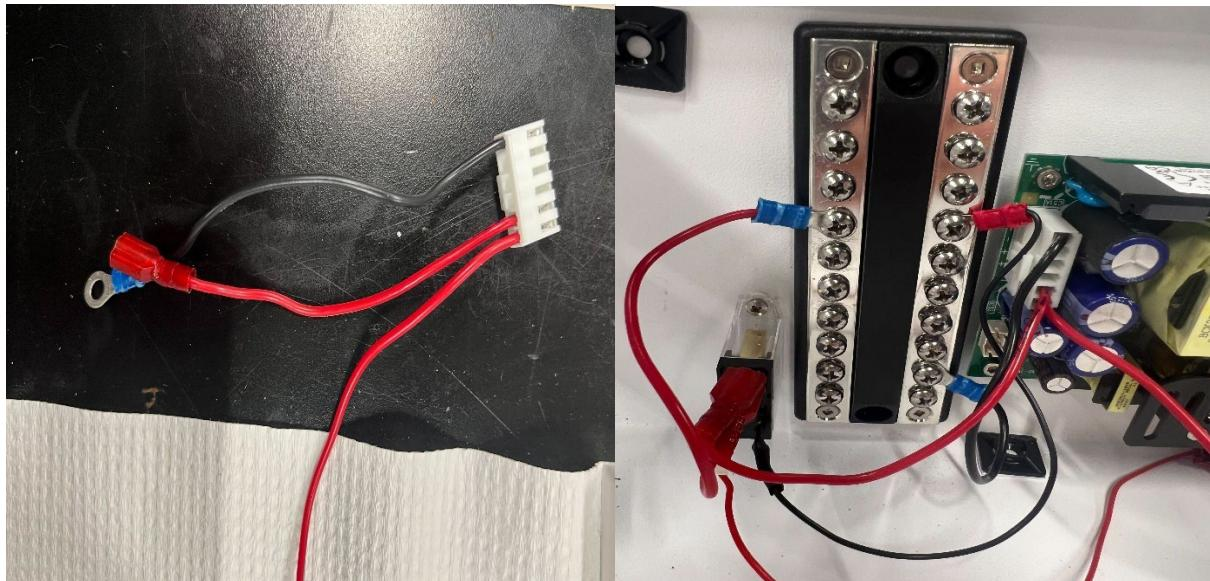

Figure 10: DC output connector (left) and connections for DC Power supply and the Relay to the Terminal Bus Block (right)
6. Prepare 4 wires: 3 red and 1 black. One Red should be long, while the rest should be cut short. The long red, 1 short red, and 1 black should be crimped with SVH-41T-P1.1 crimps and placed into the mating connector for the DC output of the AC/DC power supply (part # VHR-6N). The other end of the black wire should be crimped with a ring terminal and screwed into the negative side of the terminal bus. The other end of the short red wire should be crimped with a quick connect and plugged into one of the horizontal tabs on the relay. The last short red wire should have one end crimped with a ring connector, and the other with a quick connect tab. Plug the quick connect tab end onto the other tab on the relay next to the previous tab connection, and screw in the ring connector side to the positive side of the terminal bus. See Figure 10 for reference.